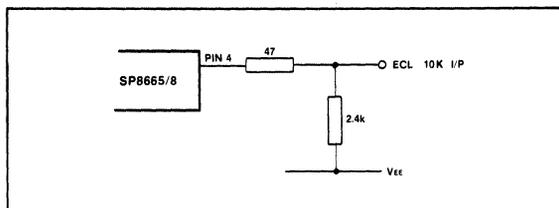

Fig.7 SP8665/8 to ECL 10K interface
5. The emitter follower output includes an internal 3k pull-down resistor and is compatible with ECL II, but can be interfaced with ECL III/10K by the inclusion of two resistors. See Fig. 7.